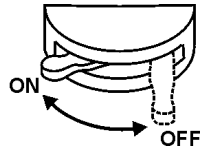

Figure 28. Battery Switch (ON)
1. Set the **battery ON/OFF switch** (Figure 28) to the "ON" position.